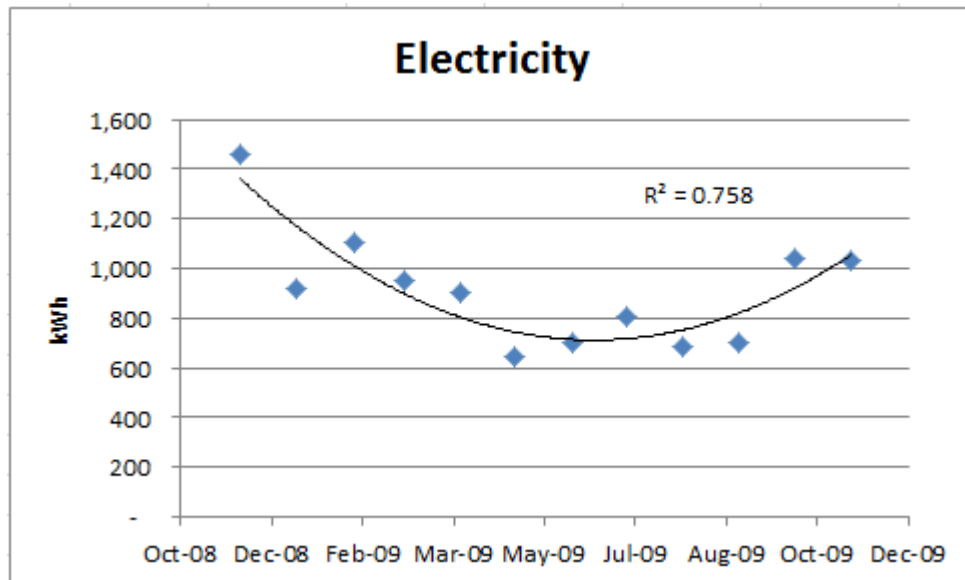

Figure 3.38. Electricity use may be dependent on month but not in a linear relationship
8. Observe that the R^2 value is 0.758 which is much closer to 1. This implies that there might be a dependent relationship between the electricity use and the month which would allow cautious use of interpolation and short-term extrapolation. Compare your chart to Figure 3.38.